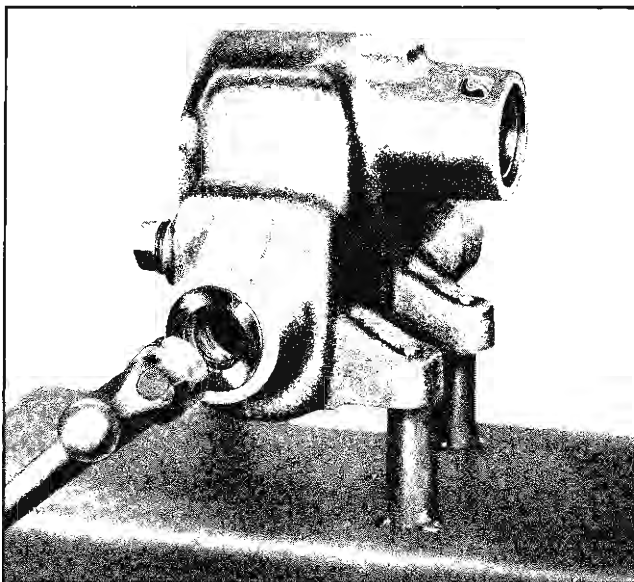

Fig. 9-26 Installing Upper Bearing Seal
4. Install new upper bearing seal (Fig. 9-26).